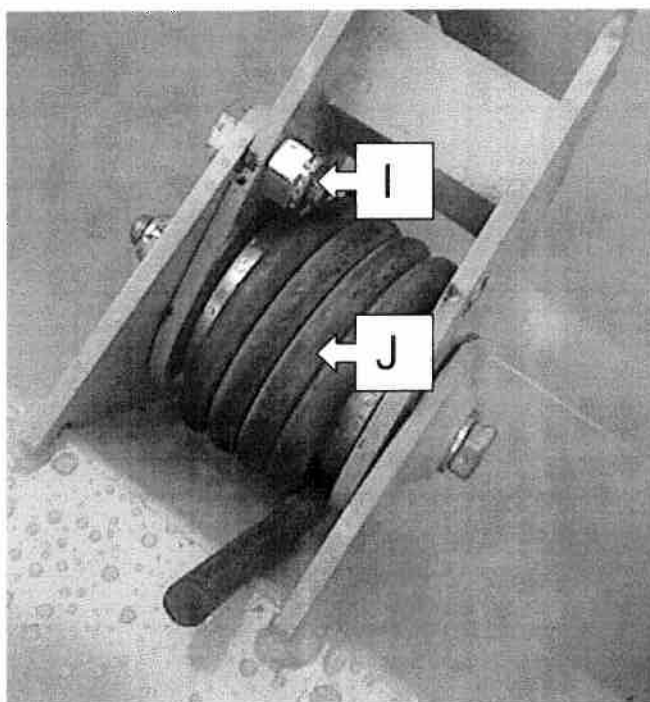

Fig.7
If a large obstruction is encountered, the paddle will try and push it round with the auger as it rotates. If the blockage is too large to move then the shearbolt (I); (See Fig.7) on the spring back paddle will break, this will result in the paddle being pushed back against the tension of a spring to avoid the blockage. Once the paddle passes the obstruction, the spring forces the paddle back to it's original position again - thus enabling more muck to be spread.